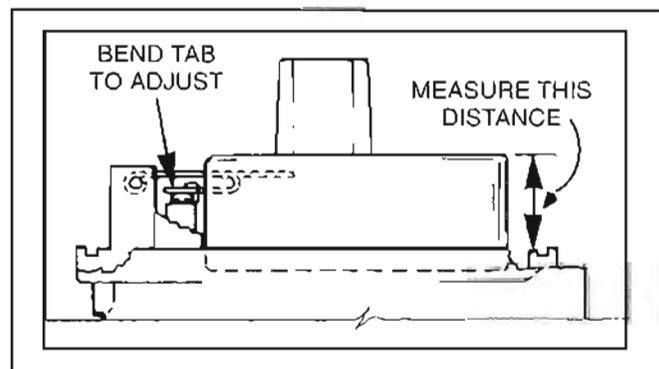

FIGURE 8-22. FLOAT LEVEL (PRIOR TO SPEC E, MODEL KV ONLY)
4. Invert the float and needle valve assembly and check float level by measuring between the float and carburetor at the point shown in Figure 8-22. The full weight of the float should be resting on the needle valve and spring. The correct distance is specified in Table 8-2. If the setting is incorrect, remove float and bend tab to adjust. Bend the float only at the point indicated.